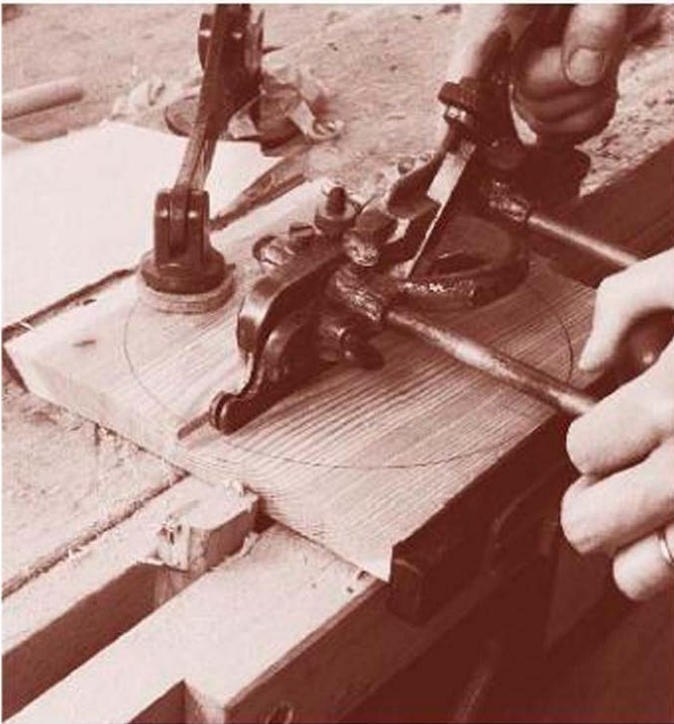

FIGURE 20-3
- 3 Use the tools of your choice to run the $\frac{3}{4}$ "-wide housing channel across the base. I used an old combination plane (Figure 20-3), but you could just as well use a saw and chisel or a router.